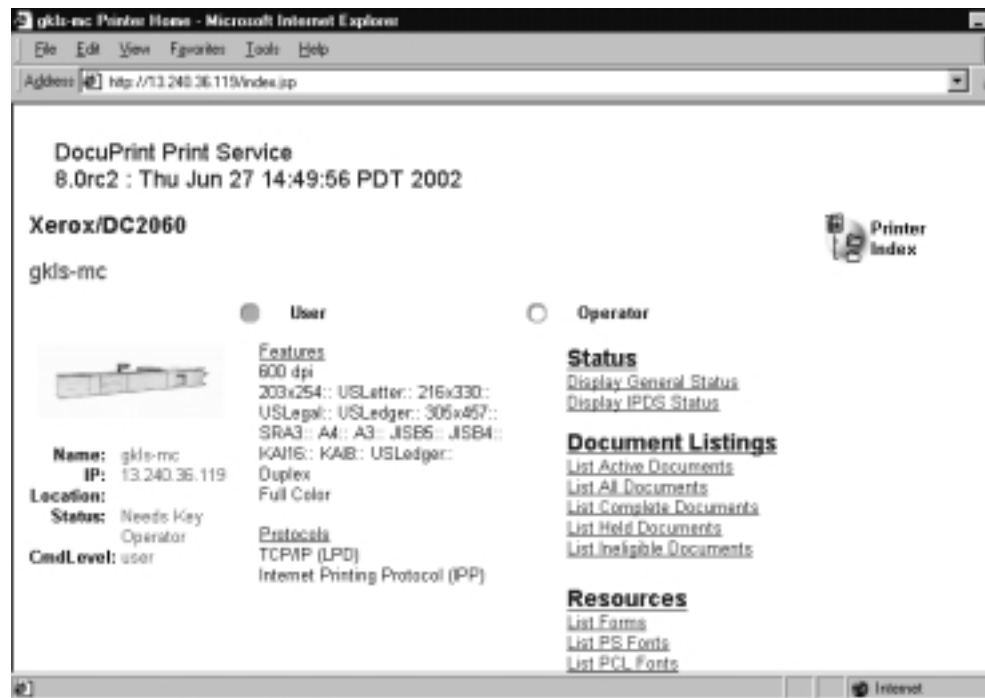

Figure 1-1. Printer home page
- List documents using various criteria to help you find the document you need. (Refer to figure 1-1.)